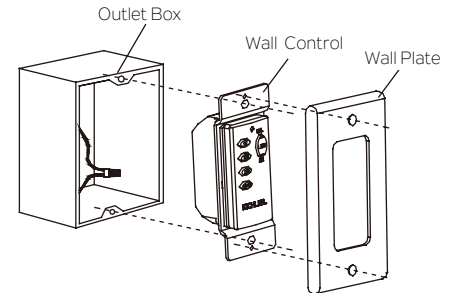

Fig. 26
Step 2. Use the screws provided to secure the wall control to the outlet box. (Fig. 26)